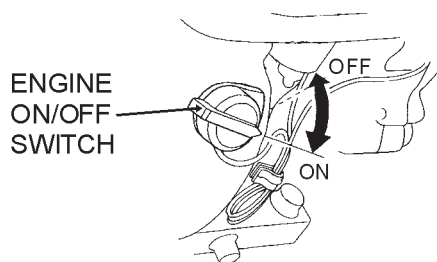
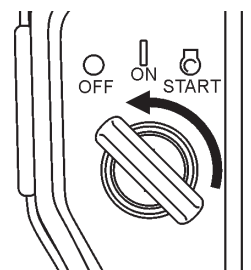

Figure 47. Engine ON/Off Switch (engine)
Figure 51. Ignition Switch (OFF Position)
3. Turn the **engine ON/OFF switch** (Figure 47) to the "OFF" position.
4. Turn the **engine ON/OFF switch** (Figure 47 or Figure 51) to the "OFF" position. The Ignition Switch on Electric-Start models must be turned off to prevent unwanted battery discharge.